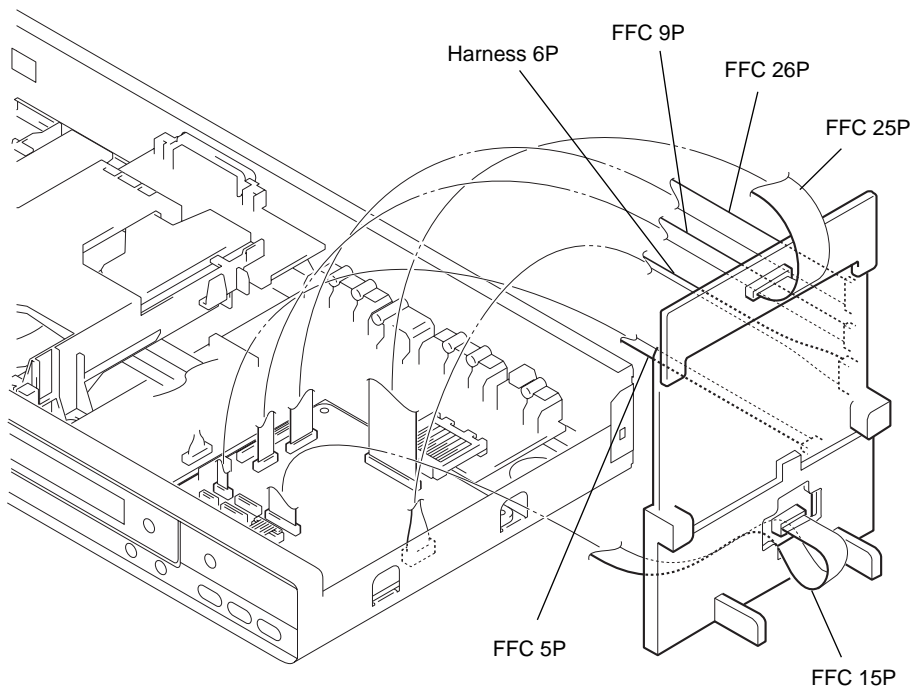

Fig. 5.
- 5) Set five flexible flat cables and the harness as shown in Fig. 5.